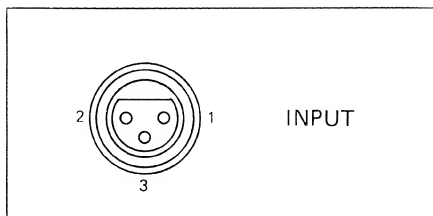

Fig. 1
10.1.1. LINE INPUT (Fig. 1)
(Fig.1)
Balanced input MIC INPUT (Fig. 1)
Entrée symétrique MIC INPUT (Fig. 1)